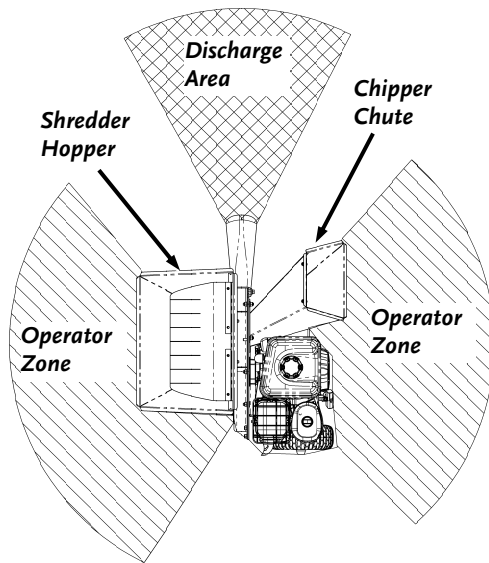

Figure 14
- ALWAYS operate the 9.5 Chipper w/Shredder from the Operator Zones (**Figure 14**).